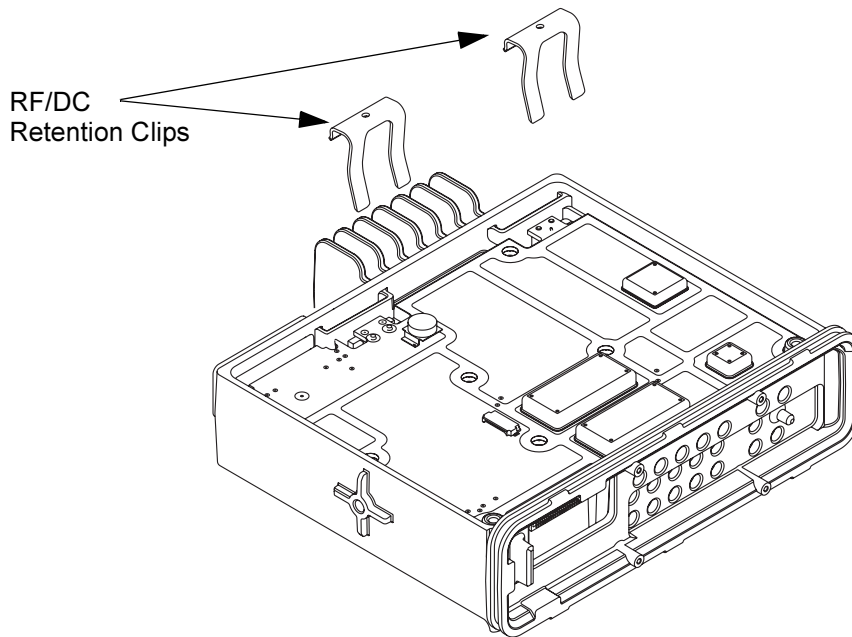

Figure 5-15. Inserting RF/DC Retention Clips
2. Insert the RF/DC retention clips and fully seat them. The DC clip should be inserted first to properly locate the transceiver board. Refer to Figure 5-15.